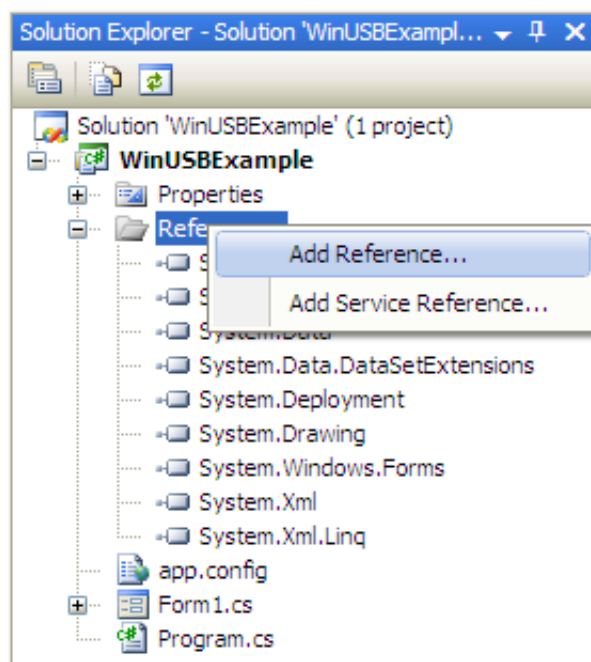

Figure 10. adding FSLwinusb_v2.dll as a reference
2. Add FSLwinusb_v2.dll as a reference file. See Figure 10, 11 and 12.